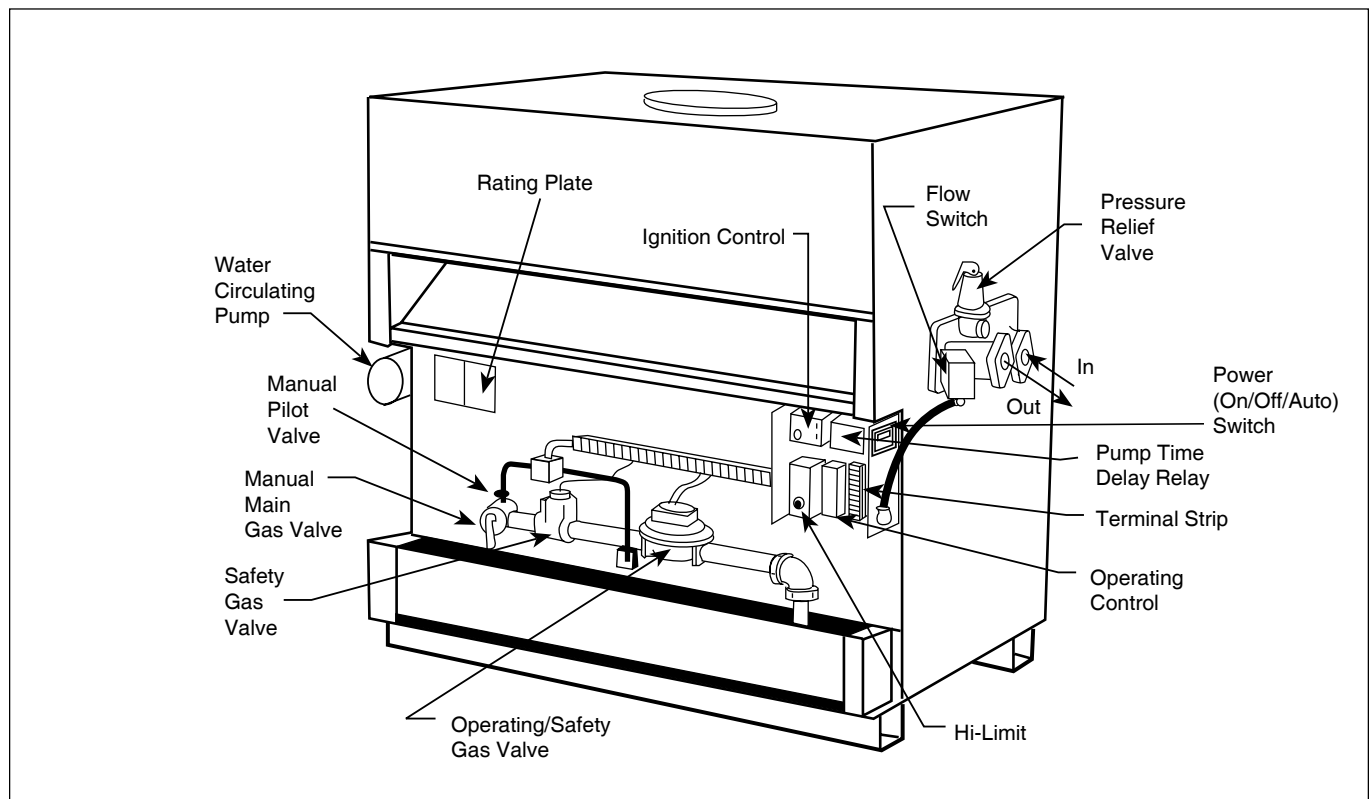

Figure 12. Controls Location.
3.1 Controls - General (see Figures 12 and 13)
7. An adjustable pump time delay relay is mounted in the control panel (see Figure 12). This relay keeps the pump running after the burners shut off. The delay should be set to 5-6 minutes for models 500-850 and 9-10 minutes for models 1010-1825.